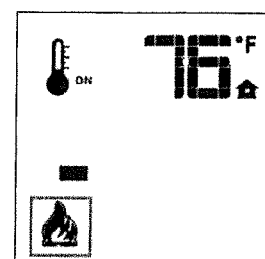

Figure 60. Flame Level 1.
- With the system ON, and the burner flame level at maximum, press the Down Arrow Key once to reduce the flame height by one step. Each time the Down Key is pressed, the flame will step down until the burner is finally turned off. Fig. 60.